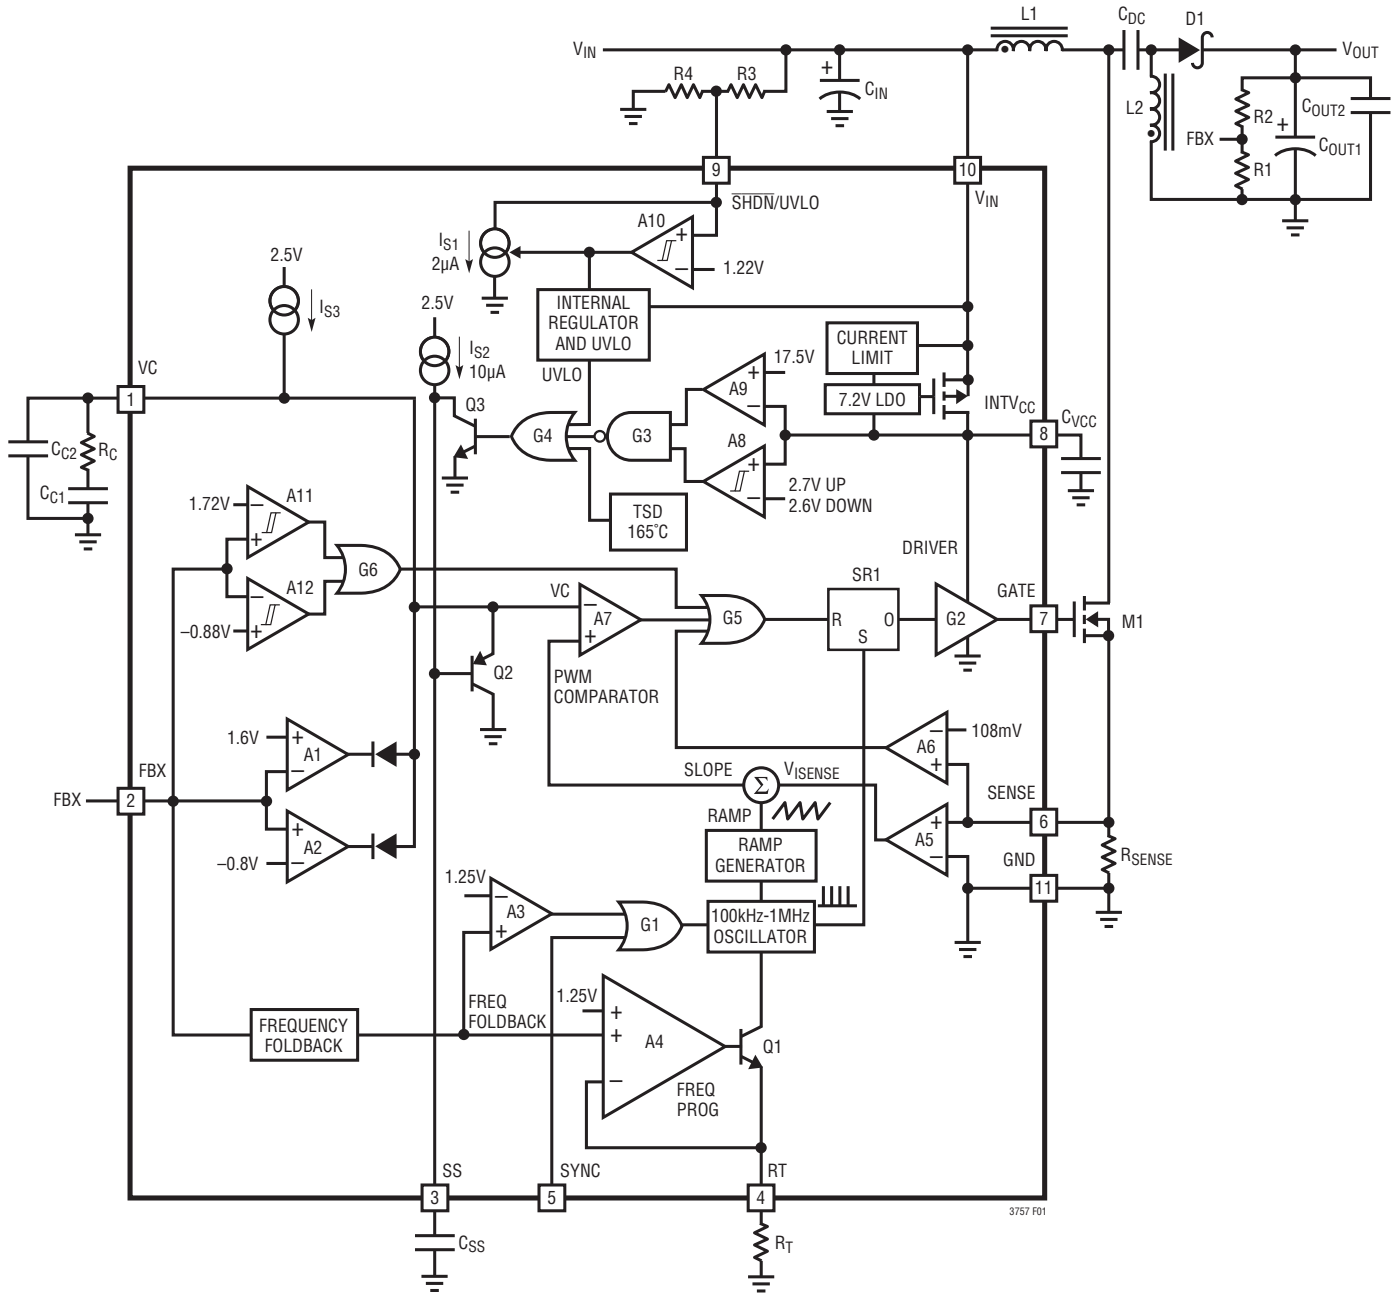

Figure 1. LT3757 Block Diagram Working as a SEPIC Converter
The LT3757 uses a fixed frequency, current mode control scheme to provide excellent line and load regulation. Operation can be best understood by referring to the Block Diagram in Figure 1.
The LT3757 is capable of generating either positive or negative output voltage with a single FBX pin. It can be configured as a boost, flyback or SEPIC converter to generate positive output voltage, or as an inverting converter to generate negative output voltage. When configured as a SEPIC converter, as shown in Figure 1, the FBX pin is pulled up to the internal bias voltage of 1.6V by a voltage divider (R1 and R2) connected from V_{OUT} to GND. Comparator A2 becomes inactive and comparator A1 performs the inverting amplification from FBX to VC. When the LT3757 is in an inverting configuration, the FBX pin
The purpose of this current is to allow the user to program the rising hysteresis. The Block Diagram of the comparator and the external resistors is shown in Figure 1. The falling threshold voltage and rising threshold voltage can be calculated by the following equations:
An internal, low dropout (LDO) voltage regulator produces the 7.2V INTV_{CC} supply which powers the gate driver, as shown in Figure 1. If a low input voltage operation is expected (e.g., supplying power from a lithium-ion battery or a 3.3V logic supply), low threshold MOSFETs should be used. The LT3757 contains an undervoltage lockout comparator A8 and an overvoltage lockout comparator A9 for the INTV_{CC} supply. The INTV_{CC} undervoltage (UV) threshold is 2.7V (typical), with 100mV hysteresis, to ensure that the MOSFETs have sufficient gate drive voltage before turning on. The logic circuitry within the LT3757 is also powered from the internal INTV_{CC} supply.
The choice of operating frequency may be determined by on-chip power dissipation, otherwise it is a tradeoff between efficiency and component size. Low frequency operation improves efficiency by reducing gate drive current and MOSFET and diode switching losses. However, lower frequency operation requires a physically larger inductor. Switching frequency also has implications for loop compensation. The LT3757 uses a constant-frequency architecture that can be programmed over a 100kHz to 1000kHz range with a single external resistor from the RT pin to ground, as shown in Figure 1. The RT pin must have an external resistor to GND for proper operation of the LT3757. A table for selecting the value of R_T for a given operating frequency is shown in Table 1.
The output voltage (V_{OUT}) is set by a resistor divider, as shown in Figure 1. The positive and negative V_{OUT} are set by the following equations:
The LT3757 addresses this mechanism with the SS pin. As shown in Figure 1, the SS pin reduces the power MOSFET current by pulling down the VC pin through Q2. In this way the SS allows the output capacitor to charge gradually toward its final value while limiting the start-up peak currents. The typical start-up waveforms are shown in the Typical Performance Characteristics section. The inductor current I_L slewing rate is limited by the soft-start function.
component values and the operating conditions (including the input voltage, load current, etc.). To compensate the feedback loop of the LT3757, a series resistor-capacitor network is usually connected from the VC pin to GND. Figure 1 shows the typical VC compensation network. For most applications, the capacitor should be in the range of 470pF to 22nF, and the resistor should be in the range of 5k to 50k. A small capacitor is often connected in parallel with the RC compensation network to attenuate the V_C voltage ripple induced from the output voltage ripple through the internal error amplifier. The parallel capacitor usually ranges in value from 10pF to 100pF. A practical approach to design the compensation network is to start with one of the circuits in this data sheet that is similar to your application, and tune the compensation network to optimize the performance. Stability should then be checked across all operating conditions, including load current, input voltage and temperature.